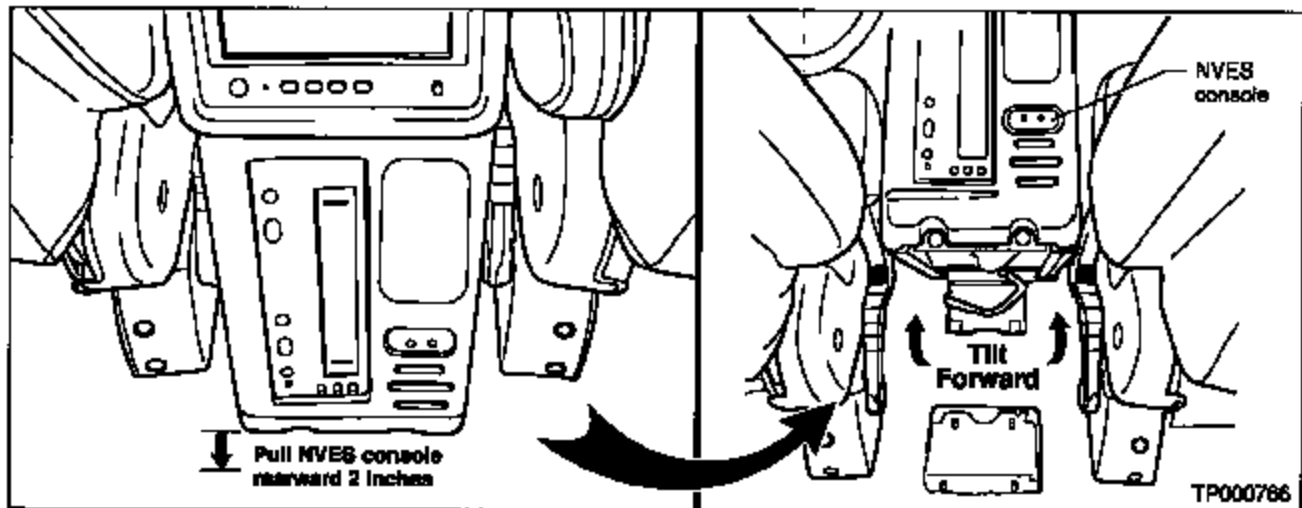

Figure 2
- D. Pull the console rearward 2 inches so it slides out of the front mounting bracket (see Figure 2).